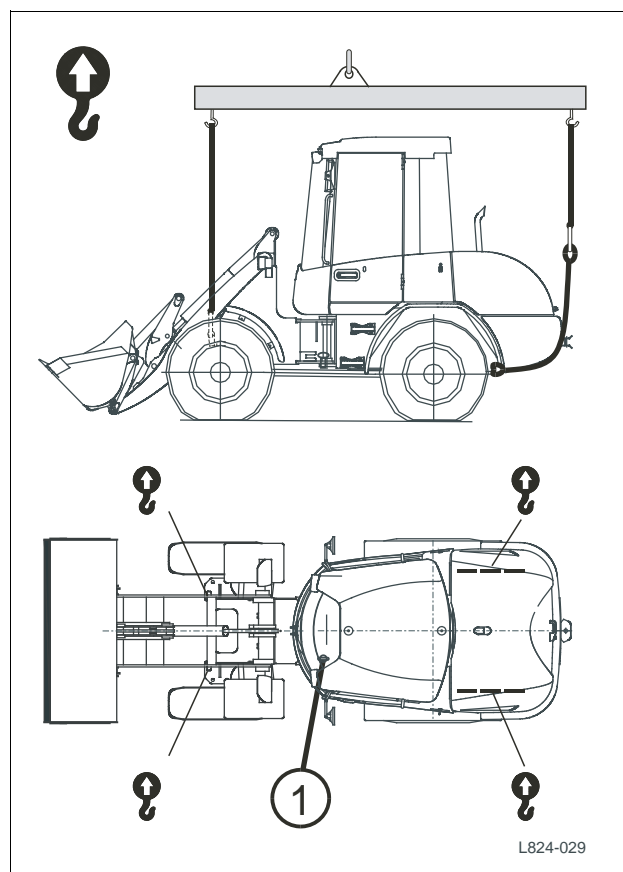

Fig. 28 Loading the machine using a crane
- Attach the loader to the hoisting appliance at the specified, marked points (Fig. 28) in the correct manner.